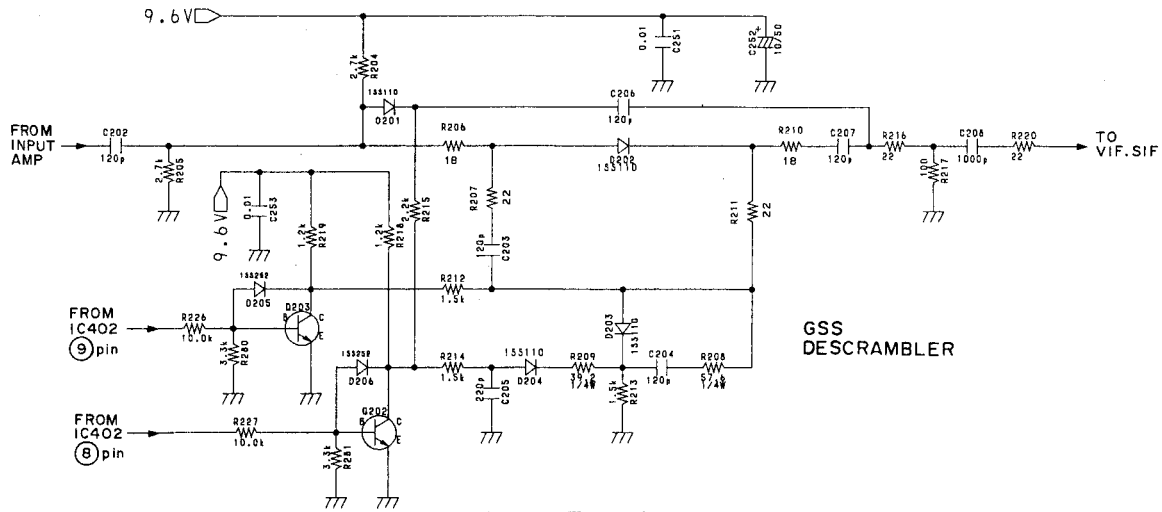

Fig. 20 Expander
2.5 GSS Descrambler (Expander) (Fig. 20)